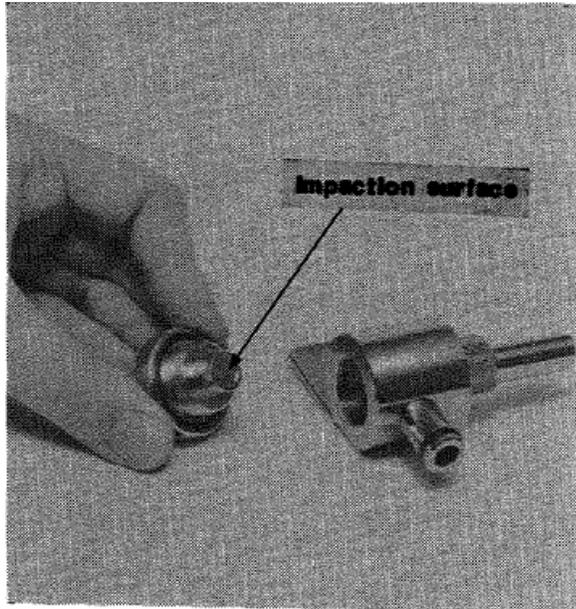

Figure 31. Impactor and housing
Step 3. Remove the impactor from its housing by unscrewing the headscrew (Figure 31).